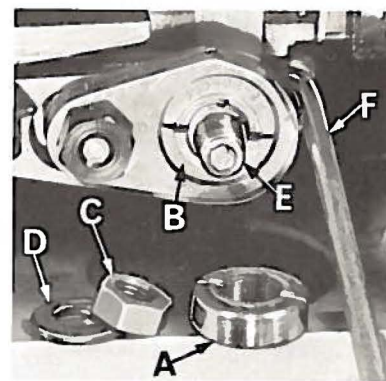

Fig. 13
Length of stitch is determined by the combination of feed eccentrics used. Outer (left) eccentric (A, Fig. 13) actuates main (rear) feed dog; while the inner (right) eccentric (B) actuates the differential (front) feed dog.